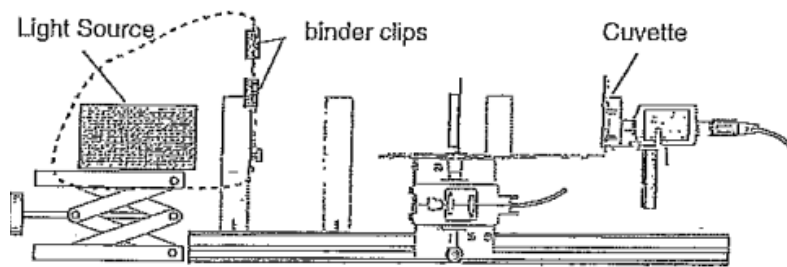

Figure 3: Experimental set-up
2. Put an empty cuvette in front of the High Sensitivity Light Sensor between the sensor and the back of the Aperture Disk. Make sure that the smooth sides of the cuvette are in line with the opening to the sensor (Fig. 3).